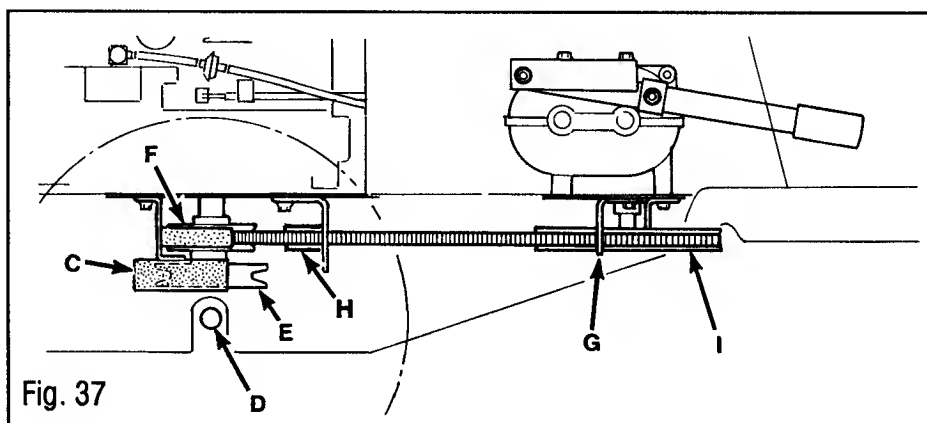

Fig. 37
4. Remove belt guide (C, Fig. 37) behind engine pulley.
- A. Place belt into sheave (F). It may be necessary to rotate differential to assemble.
- B. Loosen transmission pulley belt guides (G).
- C. Loosen idler pulley (H).
- D. Place forward portion of belt onto transmission pulley (I).
- E. Place belt between idler pulley (H) and belt guide.
- G. Re-tighten belt guides (G) 1/8" (.32 cm) away from sheave (F).
6. Re-install and re-tighten belt guide (C). Position guide as far forward as possible. After assembly, check clearance between guide (C) and bolt heads on differential. A 1/8" minimum clearance should exist.